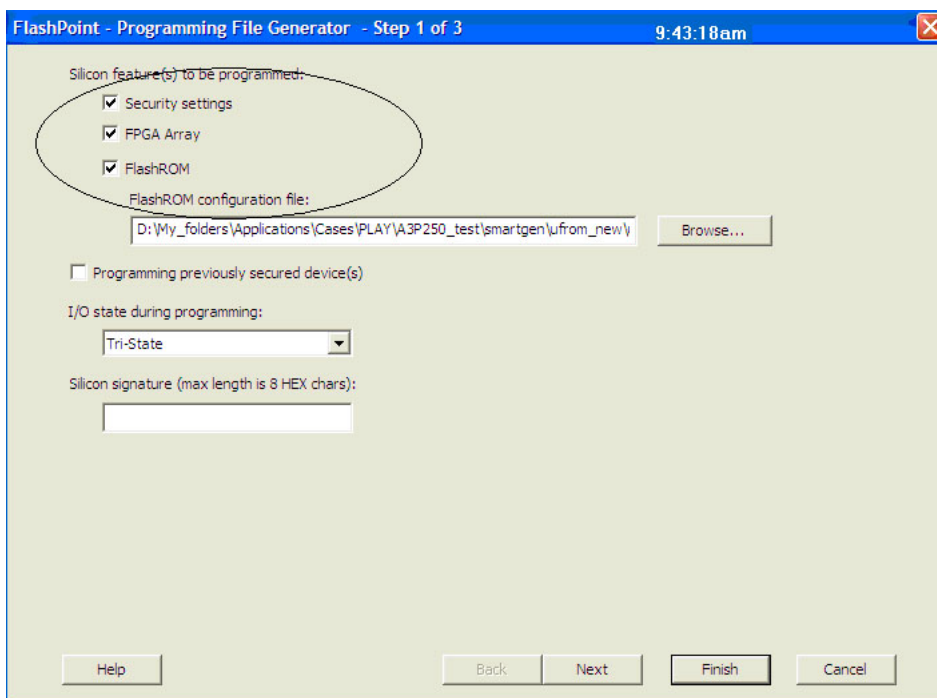
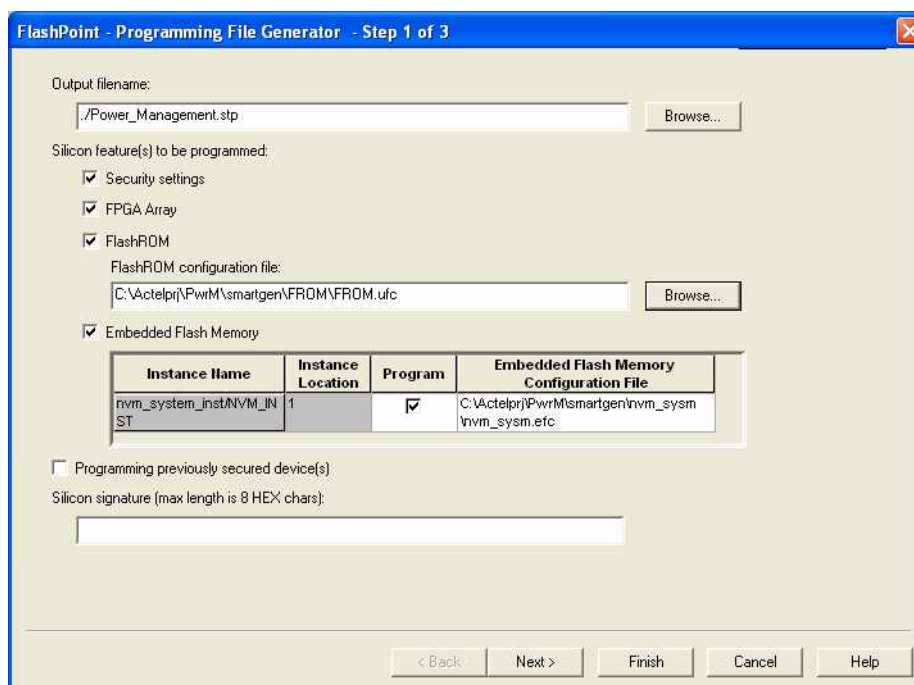
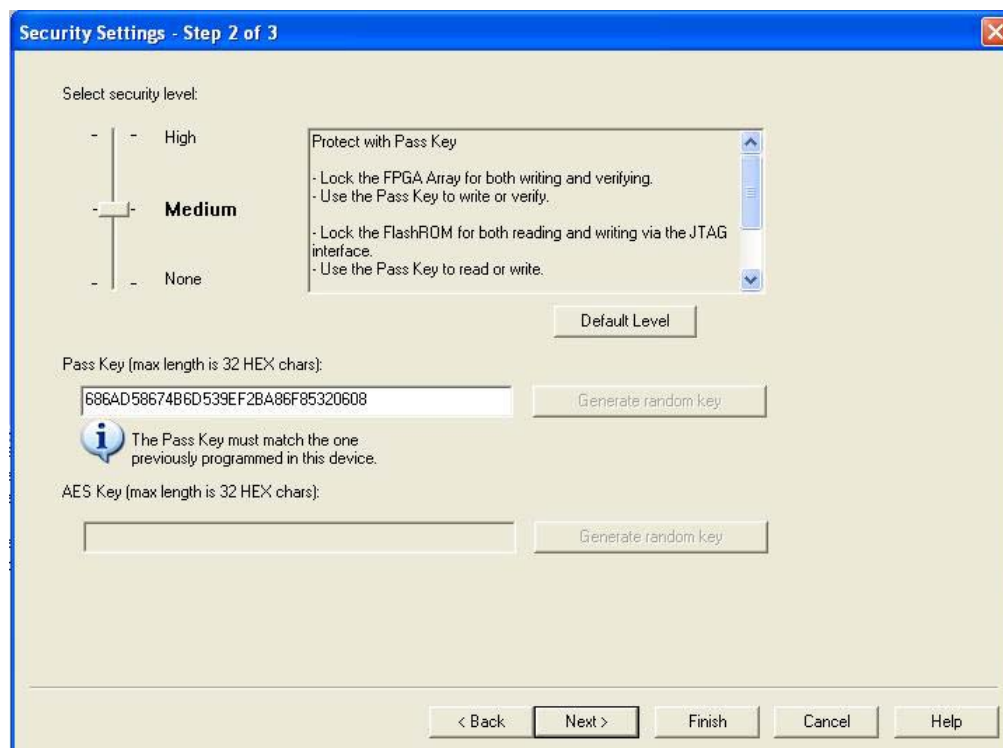

Figure 11-10 • All Silicon Features Selected for IGLOO and ProASIC3 Devices
Figure 11-11 • All Silicon Features Selected for Fusion
Figure 11-19 • FlashLock Pass Key, Previously Programmed Devices
1. Select the **Silicon features to be programmed** (Security Settings, FPGA Array, FlashROM, Flash Memory Blocks), as shown in Figure 11-10 on page 264 and Figure 11-11 on page 264. Click **Next**.
Figure 11-10 on page 264 and Figure 11-11 on page 264 show the option **Programming previously secured device(s)**, which the user should select before proceeding. Upon going to the next step, the user will be notified that the same FlashLock Pass Key needs to be entered, as shown in Figure 11-19 on page 272.
It is important to note that when the security settings need to be updated, the user also needs to select the **Security settings** check box in Step 1, as shown in Figure 11-10 on page 264 and Figure 11-11 on page 264, to modify the security settings. The user must consider the following: